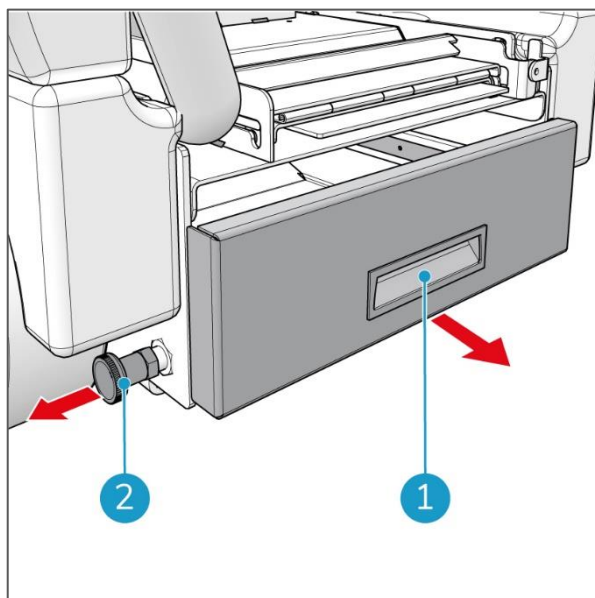

Figure 58
2. Pull out the locking pin on the left side (Figure 58, pos 2) of the battery drawer.
3. Pull out the battery drawer using the black handle (Figure 58, pos 1) until it locks into place.
7. Pull out the locking pin on the left side (Figure 58, pos 2) of the battery drawer.
8. Push the battery drawer into the i-drive® by the black handle (Figure 58, pos 1) until it locks into place.